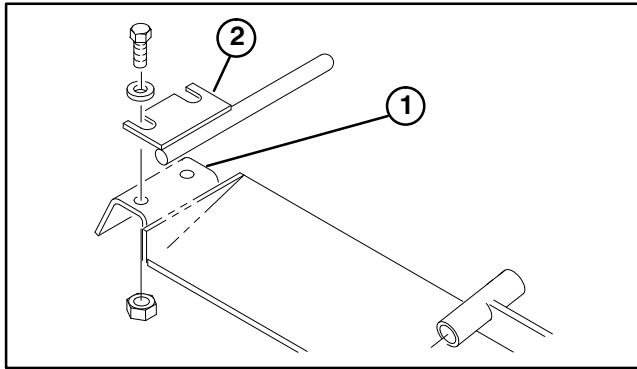

Figure 14
10. Using a tipper bracket (Fig. 14) as a template, locate, mark and drill (2) 9mm dia. holes in top of each **front, fixed** cutting unit tensioner bracket. Make sure tipper bracket is centered on tensioner bracket, as shown in figure 14. Holes may exist.
11. Mount a tipper bracket to each tensioner bracket with (2) capscrews, washers and locknuts.